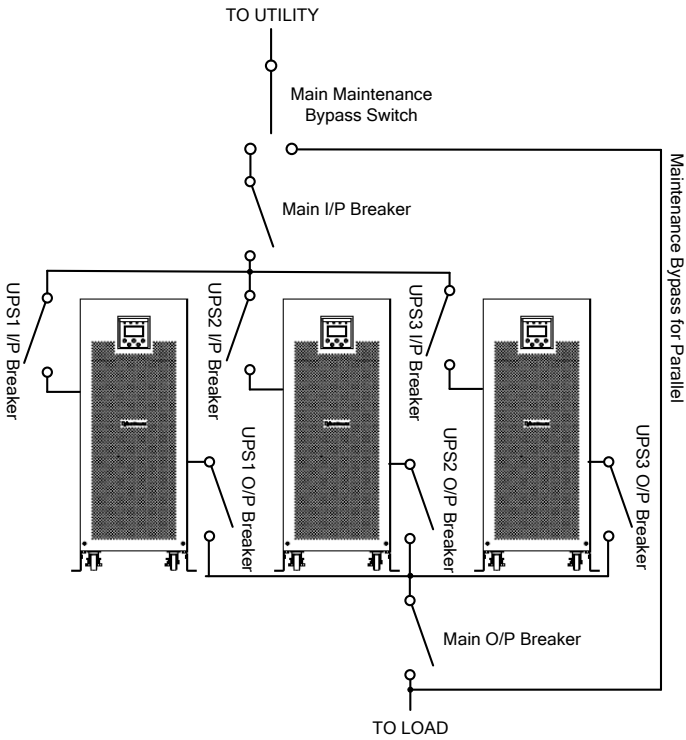

Fig.6-2 Parallel installation diagram
- 7) Please refer to the wiring diagram in the following diagram. See Fig.6-2, Fig.6-3.